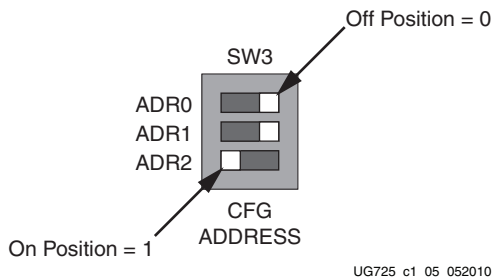

Figure 1-5: Configuration Address DIP Switch (SW3)
3. Set the System Ace Controller Configuration Address switch, SW3. The setting on this 3-bit DIP switch (shown in Figure 1-5) determines which bitstream stored in the CompactFlash card configures the FPGA. There are five IBERT demonstration designs on the CompactFlash card, one for each of the five GTX Quads available on the ML623 board. Note that Figure 1-5 shows an example setting of $ADR[2:0] = 100$. For Q112, the configuration address is 000.